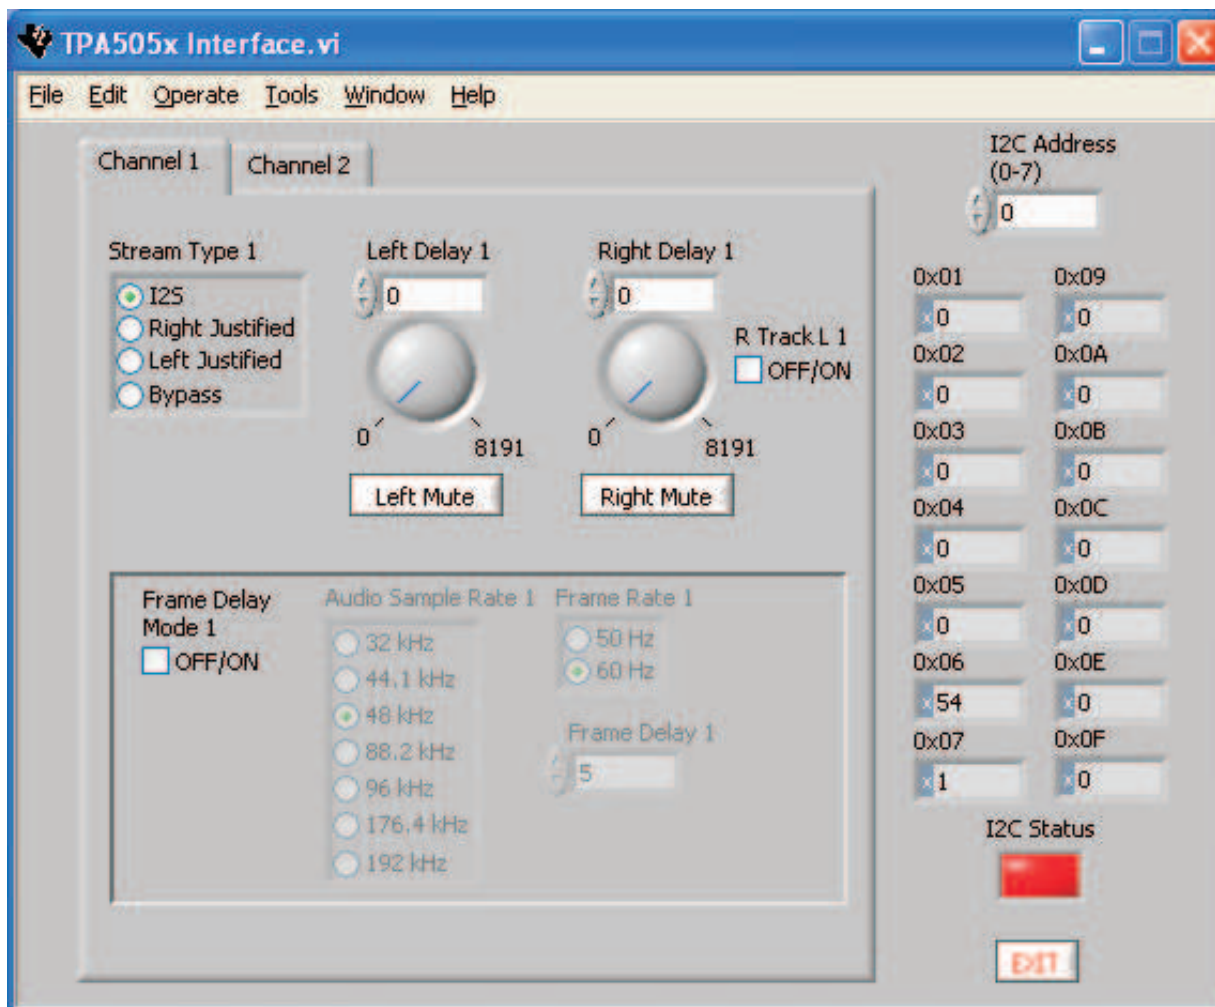

Figure 4. TPA5050 in I²S Mode – Unable to Communicate
8. The *I2C Status* display at the bottom right indicates whether the device and the computer are communicating properly. A red status bar indicates a problem. A green status bar indicates the device and computer are talking (see Figure 4). Possible solutions to the red status bar problem are to hit the **reset** button on the TI Input USB board, check to see that all cables are properly connected, restart the TPA5050 GUI, remove and then re-insert the USB cable into the computer, reboot the computer, or re-install the software.